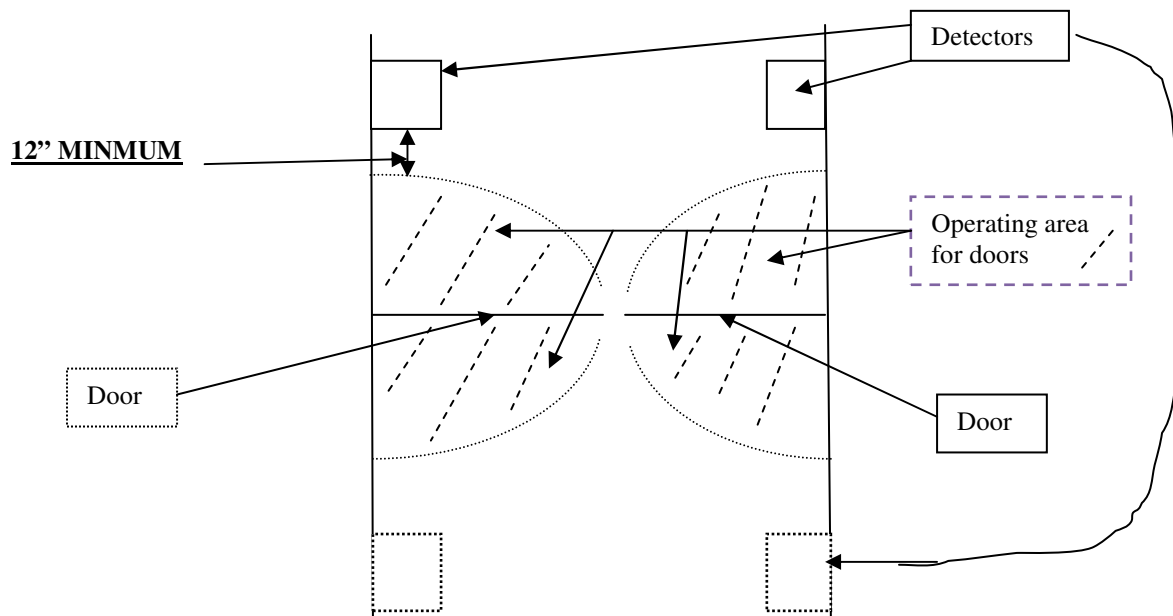

Figure 13
5.4.1 The detectors for the AM-806 ***CANNOT BE MOUNTED*** where doors or other similar material will cover the sensitive portion of the detector. **FIGURE 13** shows how the detectors must be located to prevent doors from interfering with the instruments operation. Johnson recommends the DETECTORS be located approximately 12" before (or after) the operating area of the doors.